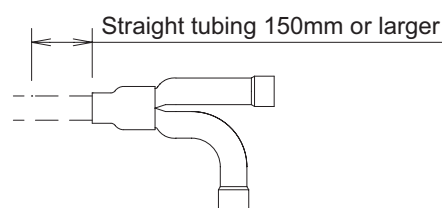

Fig. 2-7-4
- For branching tubes, install 150mm or larger (including reducer) straight tubing up to the point where the tube branches (or after the point where the tubes join together). (Fig. 2-7-4)